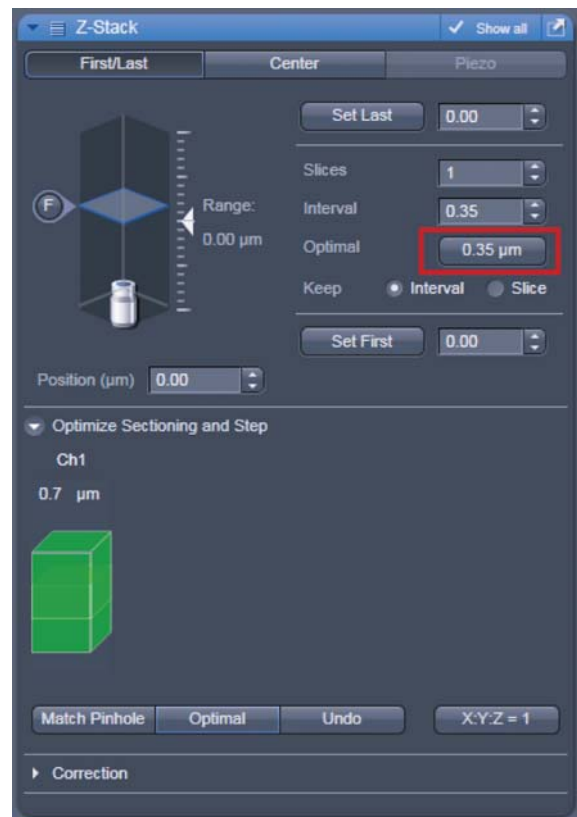

Fig. 4-126 Z-Stack tool
- The **Optimal Interval** box of the **Optimize Sectioning and Step** submenu of the **Z-Stack** tool in **Show all** mode within the **Multidimensional Acquisition** tool group simultaneously displays the depth resolution corresponding to the pinhole diameter (see Fig. 4-126).